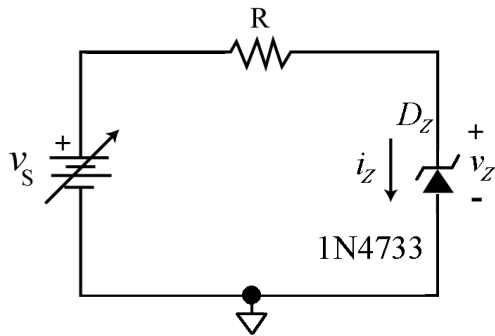

Fig. 6. – Test circuit to investigate the diode characteristic in the *breakdown region*.
Sufficiently to the left of the breakdown knee, the diode curve is approximately straight so we characterize it by measuring v_Z for *two* different values of i_Z using the circuit of Fig. 6.
MC5: In the circuit of Fig. 6 measure V_Z for $I_{Z1} = 5$ mA ($R = 1$ k Ω) and $I_{Z2} = 20$ mA ($R = 100$ Ω). As you measure V_Z , use as many digits as your DVM will allow (why?). Next, denoting the corresponding voltages as V_{Z1} and V_{Z2} , calculate the *dynamic resistance* of the diode as $r_z = (V_{Z2} - V_{Z1}) / (I_{Z2} - I_{Z1})$. Finally, use Eq. (7) to find the extrapolated value of V_{Z0} .